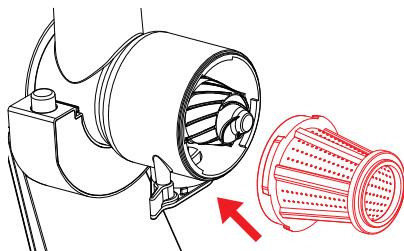

Рис. 4
3. Install the filter (6) (fig. 4).